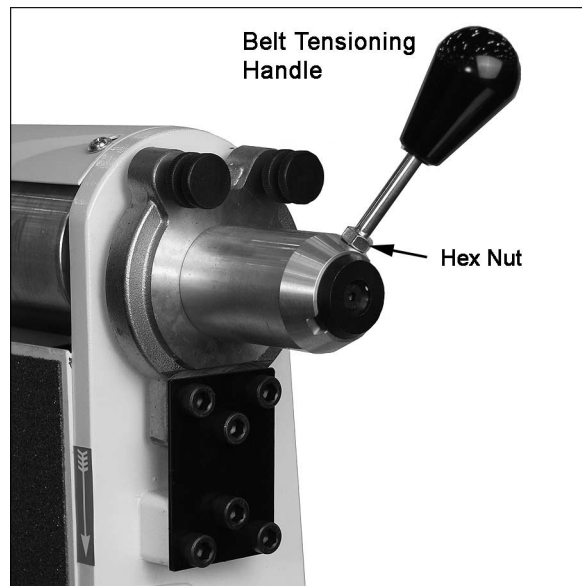

Figure 16
5. Screw the belt tensing handle (Figure 16) into the threaded hole in the belt tracking assembly, and tighten the hex nut against the shaft with a 13mm wrench.